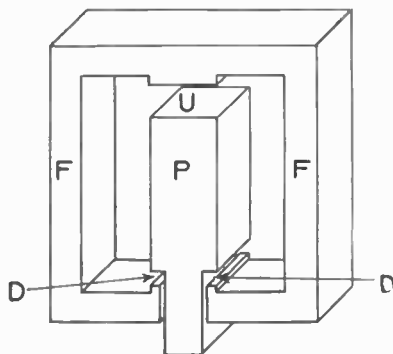

Fig. 2.—A diagram, giving the features of design and relations of the solenoid and its plunger or armature.
A most peculiar action of the bulb was observed in the experiment shown at Fig. 2. Here the battery was reversed, and the positive terminal of the battery was connected to the negative terminal of the filament. According to all theories and expectations, no current should flow through the meter. But a current did flow through the meter, and flowed through the bulb from the filament to the plate, the opposite direction of the current-flow through any ordinary electron tube. A curve of this current was plotted, which curve is shown at (B) below. With no battery voltage, a current of 1.2 milliamperes passed from the filament to the plate. The current gradually increased when the battery voltage was applied, until at 135 volts the maximum current was flowing. The next reading was taken at 157.5 volts, and the plate current was zero. At this voltage the bulb was a perfect rectifier, that is, current would flow from the plate to the filament, but not from the filament to the plate. At 180 volts the current was .05 milliamperes, and increased as higher voltage was established.
In Figure 2 we have illustrated an iron framework (FF), built rectangularly, with an opening on the bottom. A soft iron plunger (P), narrower at the bottom than at the top, fits into this framework. There are three important air gaps in this arrangement. Two air gaps (DD, Fig. 2) are between the plunger (P) and the bottom of the framework (FF), and one air gap (U) exists between the top of the plunger and top of framework.